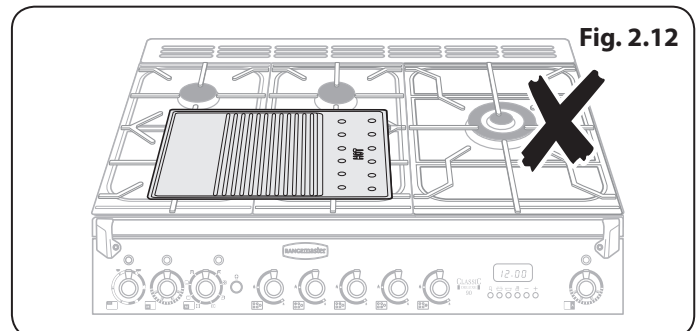

Fig. 2.12
- ⚠ **DO NOT put it crossways – it will not fit properly and will be unstable (Fig. 2.12).**